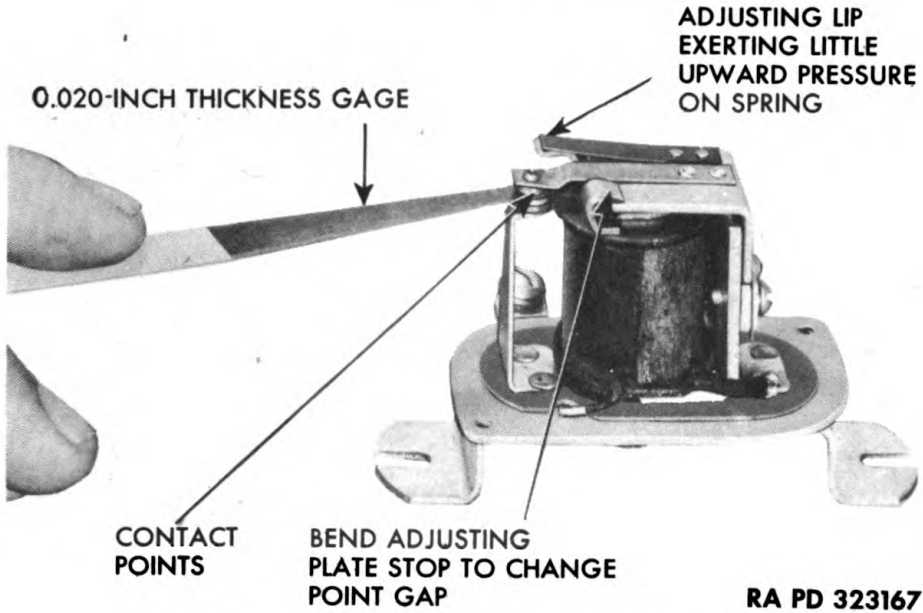

Figure 168 — Measuring Contact Point Gap
b. **Contact Point Gap** (fig. 168). With armature in the up position the contact point opening must be 0.020 inch. This adjustment is made by bending the stop on adjusting plate. Be sure that spring pressure adjusting lip is high enough to exert a slight upward pressure on armature spring before checking point opening. Adjusting plate stop must clear armature in all positions except open position, where stop will limit opening of contact points.
a. **Relay Operation** (fig. 170). Remove relay cover. Connect a 12-volt battery to the relay with rheostat connected in circuit. Connect one wire to switch terminal on relay, and other wire to relay base. Connect voltmeter across wires connecting relay. Adjust the rheostat to vary the voltage reading. The contact points should just close with a reading of 6 to 8 volts on the voltmeter. Bend adjusting lip (fig. 168) to accomplish this setting. The armature should pull down and touch the coil core by increasing the voltage above 8. This should happen before 10 volts register. At least a 1-volt lag should